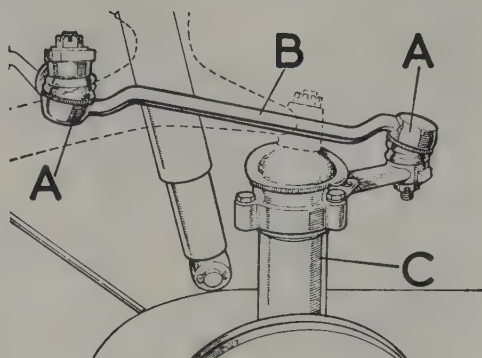

Fig. 11.21. Location of steering side rod (B) balljoints (A) and swivel pillar (C)
- 6 The steering side rod may be removed in a manner similar to that used for the track rod (Fig. 11.21).